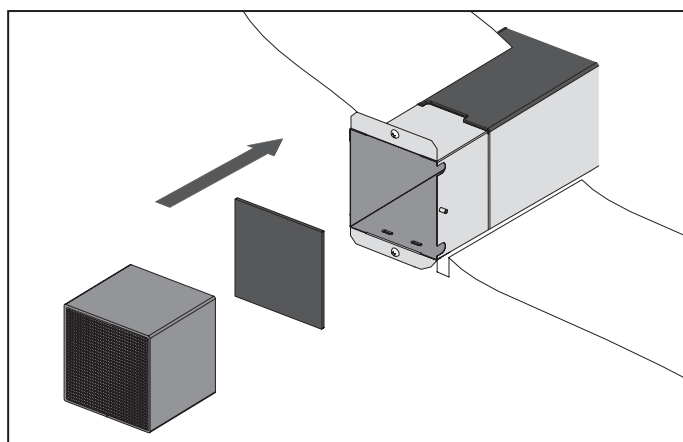

Fig. 13. Mounting of the unit components
5. Install the filter and the ceramic regenerator in the air duct, Fig. 13.